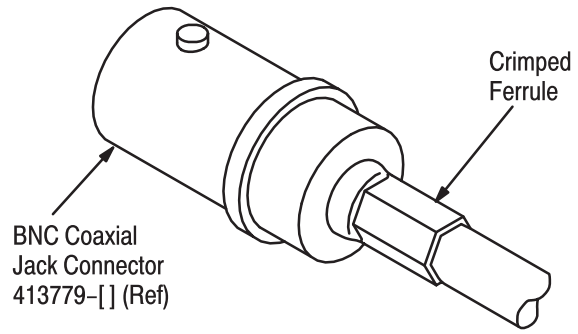

Figure 6
4. Slide the ferrule forward over the braid and support sleeve. Crimp the ferrule using Hand Tool 354940-1. See Figure 6.